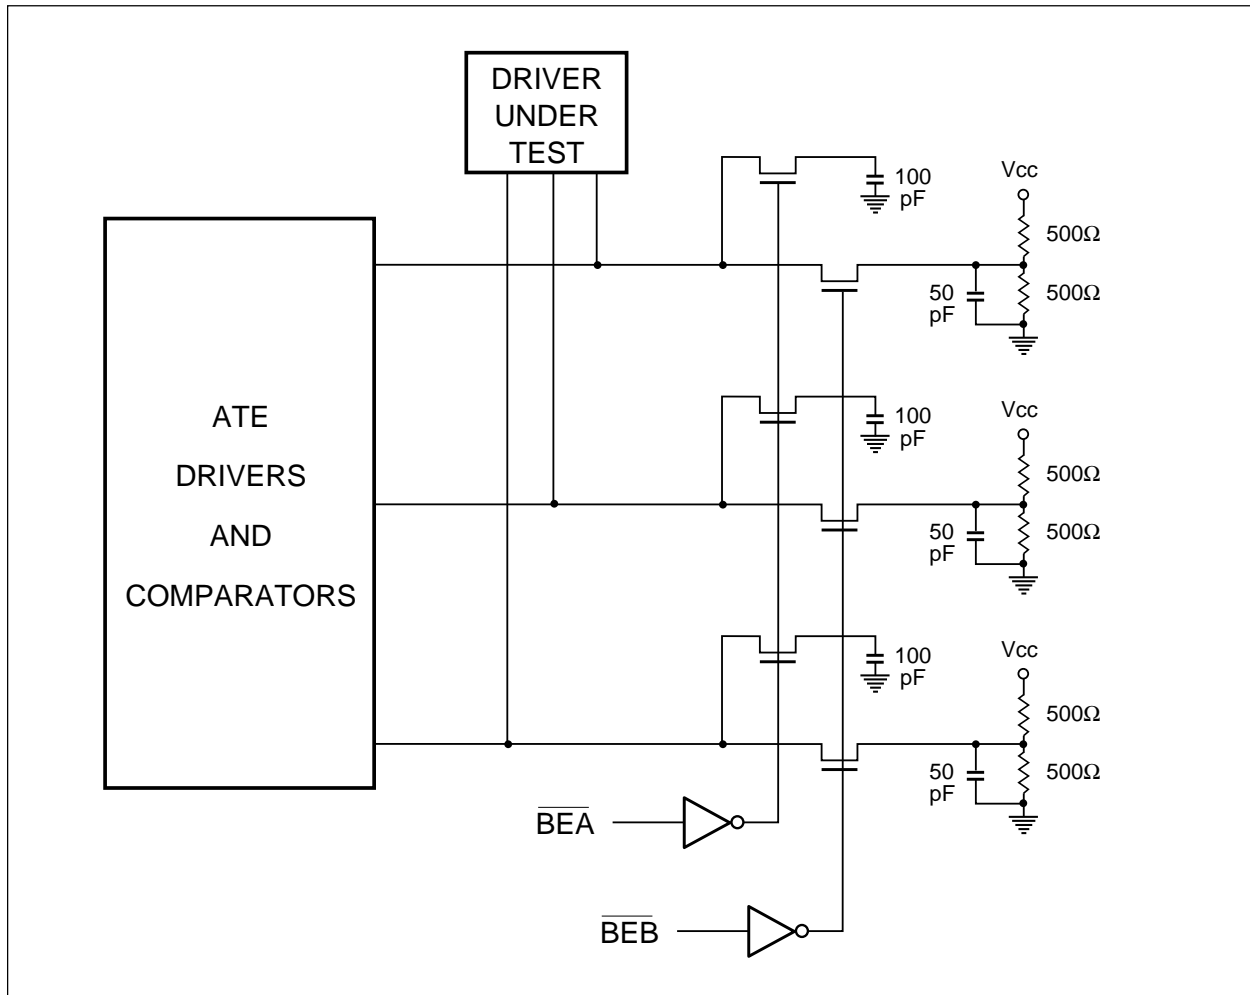

Figure 19. ATE Load Switch using Pericom's PI5C3384 Bus Switch.
- **ATE Load/Driver Switch:** Automated test equipment needs to test an output driver of a Device Under Test for different test loads. The bus switch allows the tester to switch to a new test load and isolate the old test load for an output pin (see Figure 19). The bus switch also allows a tester to select a different driver to drive an input pin.